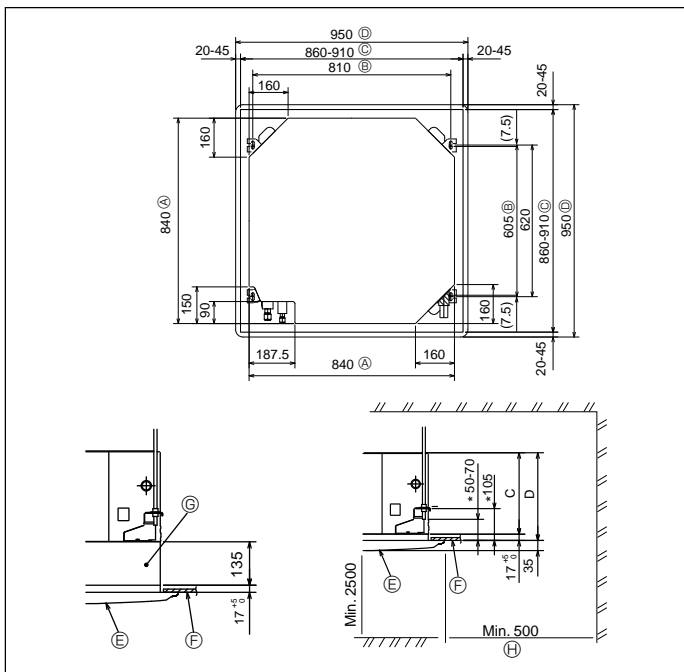

Fig. 3-2
④ Band	8
⑤ Screw with washer (M5 x 25) for mounting grille	4
⑥ Drain socket	1
⑦ Insulation	1
⑧ Flare nut 1/4F(P60)	1
3.2. Ceiling openings and suspension bolt installation locations (Fig. 3-2)
- The dimensions of ceiling opening can be regulated within the range shown in Fig.3-2; so center the main unit against the opening of ceiling, ensuring that the respective opposite sides on all sides of the clearance between them becomes identical.